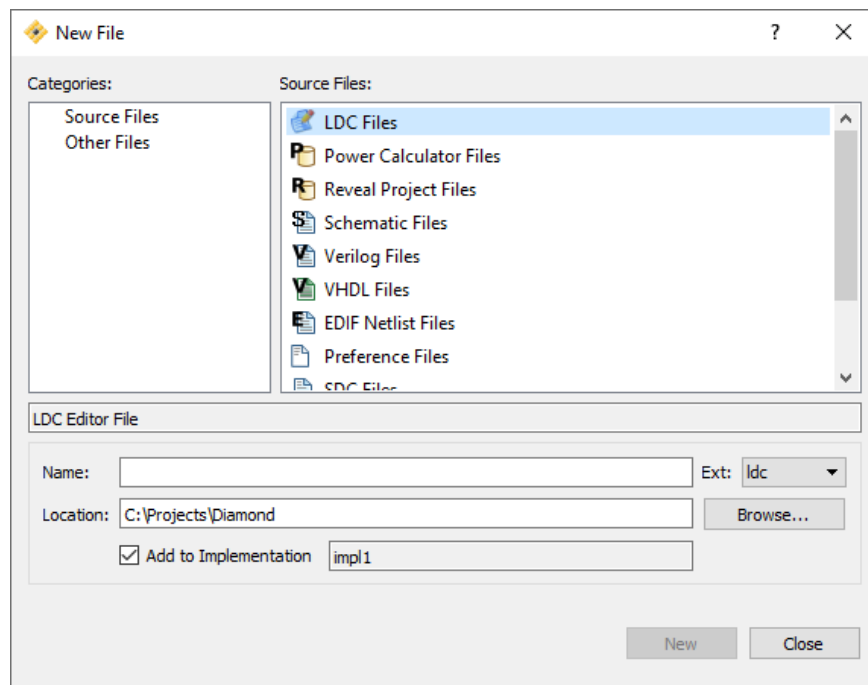

Figure 3.1. New File Wizard in Diamond Software
2. From the dropdown menu click on **Add > New File**. A **New File** dialog box as shown in Figure 3.1 opens and you can choose the HDL file type to add to the design. You can also add an existing source by selecting **Add > Existing File**.